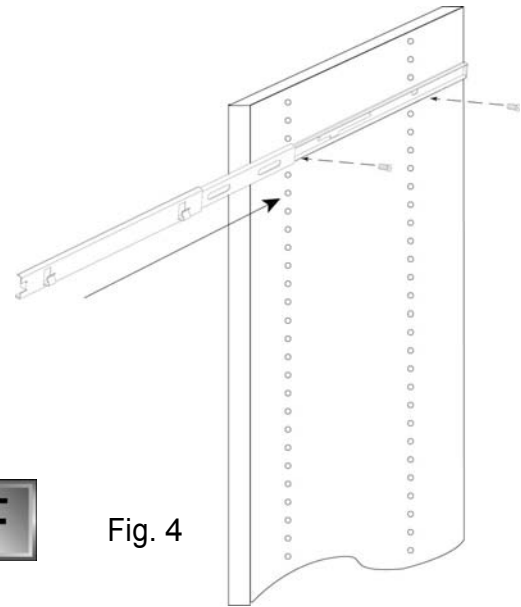

Fig. 4
3. **F** Re-attach extension slides to inner slide. (See Fig. 4.)